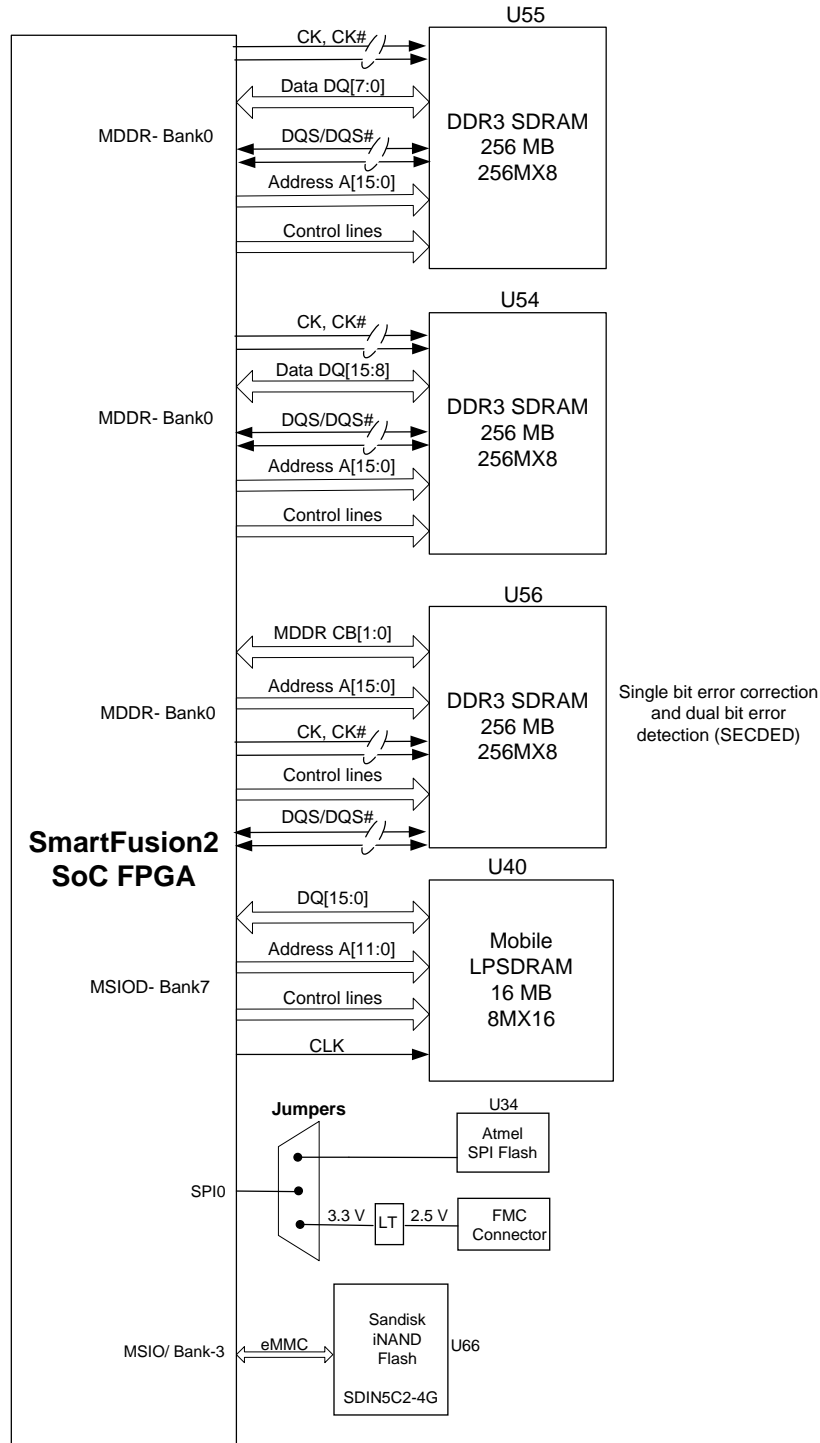

Figure 7. Memory Interface
- SERDES1 reference clock 1 is routed from the clock conditioning circuit (ZL30362) by default and optionally routed from the 100 MHz differential clock source through the resistors. Refer to Figure 7.